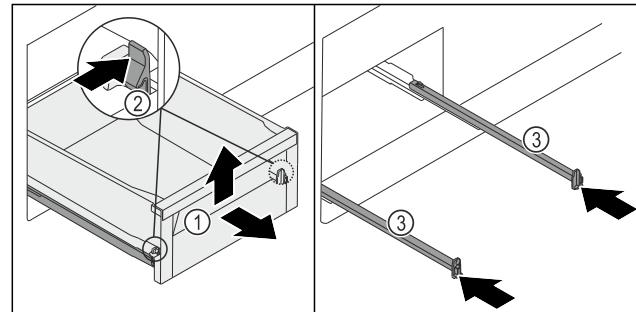

Fig. 134
- ▶ Pull the drawer Fig. 134 (1) out as far as it will go.
- ▶ Press the left and right clamp Fig. 134 (2) inwards at the same time.
- ▶ Drawer Fig. 134 (1) detaches from the rails.
- ▶ Lift up the drawer Fig. 134 (1) forwards.
- ▶ Remove the drawer Fig. 134 (1) forwards.
- ▶ Push in the rails Fig. 134 (3).